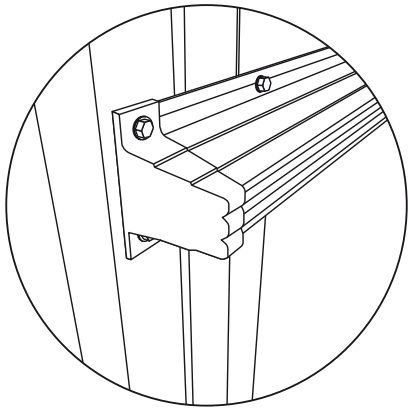

Fig: 3.3.2
- c) Other panels can be placed in the centre of the panel as per Fig 3.3.2